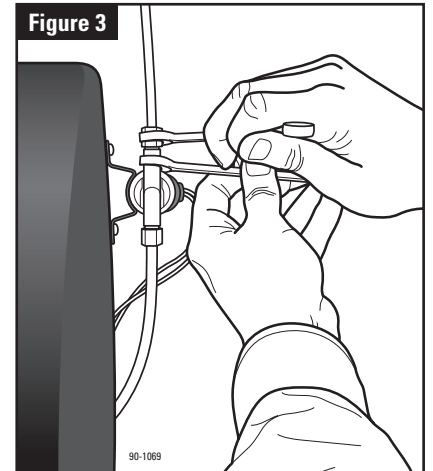

Figure 3
**10.** Connect tubing from the saddle valve to the inlet side of the solenoid valve using 1/4" O.D. copper tubing (not furnished). **DOUBLE WRENCH TO PREVENT LEAKING!** (See Figure 3)